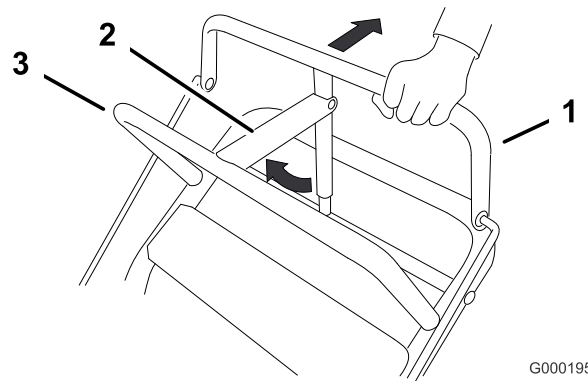

Figure 5
1. Pull the upper control bar rearward and hold it in this position (Figure 5).
The parking-brake lever should stay in the engaged position (Figure 5).